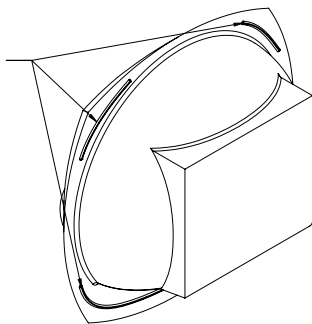

FIG. 4
5. Apply hot melt glue to several locations on the back of the dish. *See Figure 4.*